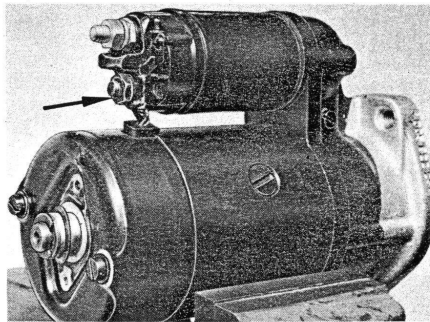

Fig. 51
1. Remove dust cover, lock ring, and spacers, watching the O-rings. Detach connecting strand from the solenoid (see Fig. 51).